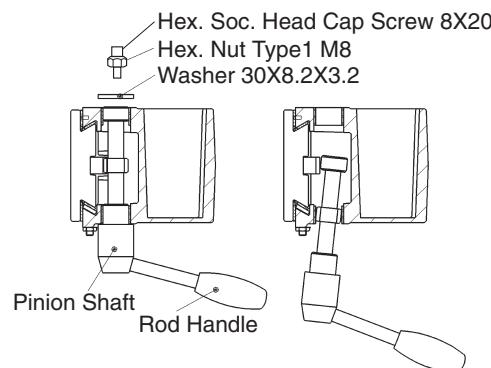

Fig. 15
- (1) Unscrew Hex. Soc. Head Cap Screw 8x20 using Hex. Socket Screw Key 6 included in the accessories.
- (2) Pull out the Pinion Shaft Assy with Rod Handles as shown in the sketches in Fig. 15.